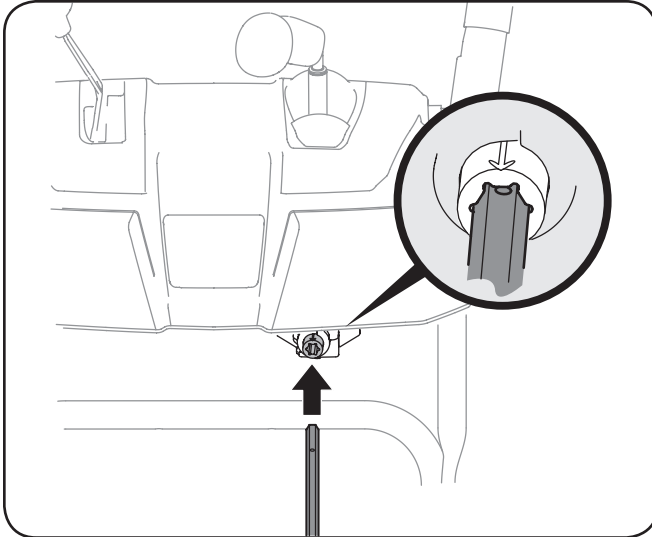

Fig. 3-8
6. Insert the hex end of the rod (**hole pointing upward**) into the pinion gear. See Fig. 3-8.